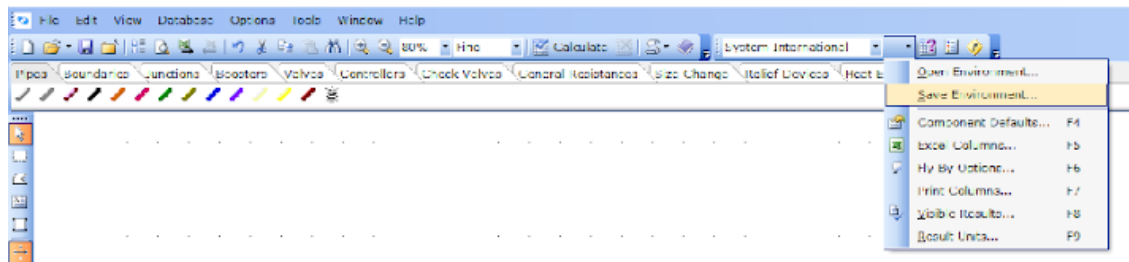

Figure 25: Save Environment Option.
24. Now that we have set the results unit, let us save the custom result unit set. Click the drop-down button at the right of the default unit set and select the Save Environment option (Figure 25).